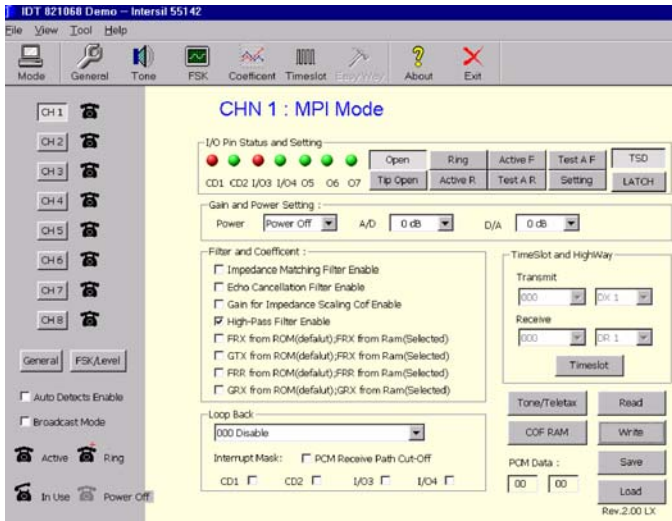

FIGURE 3. MPI OPERATION GENERAL INTERFACE
Programming of the logic state of the SLIC, loop supervisory detection, time slot allocation, coefficients, tone/ teletax signals are all controlled via software using the MPI screen (Figure 3).
5. The MPI Mode screen will then appear (Figure 3). All programming of the channels and monitoring of SLIC status are performed using this screen.